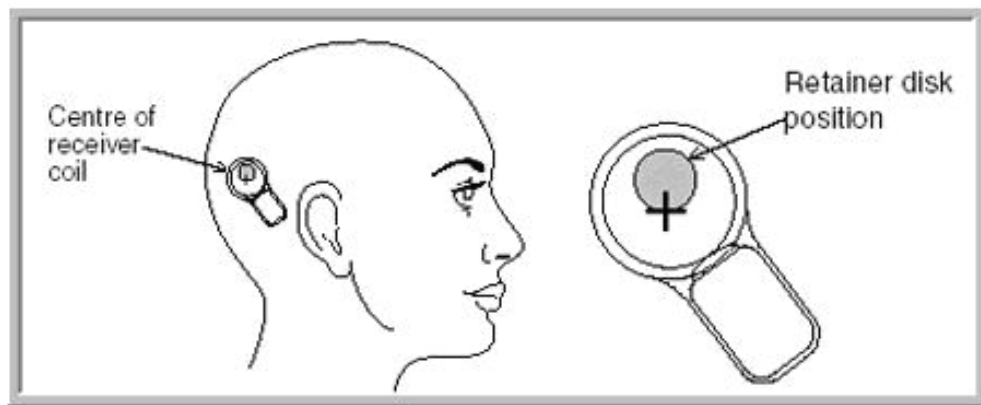

Figure 3:
6. Attach the retainer disk so it rests just above the centre of the receiver coil of the implant, since the transmitter coil will not adhere directly to the centre of the retainer disk (Figure 3).